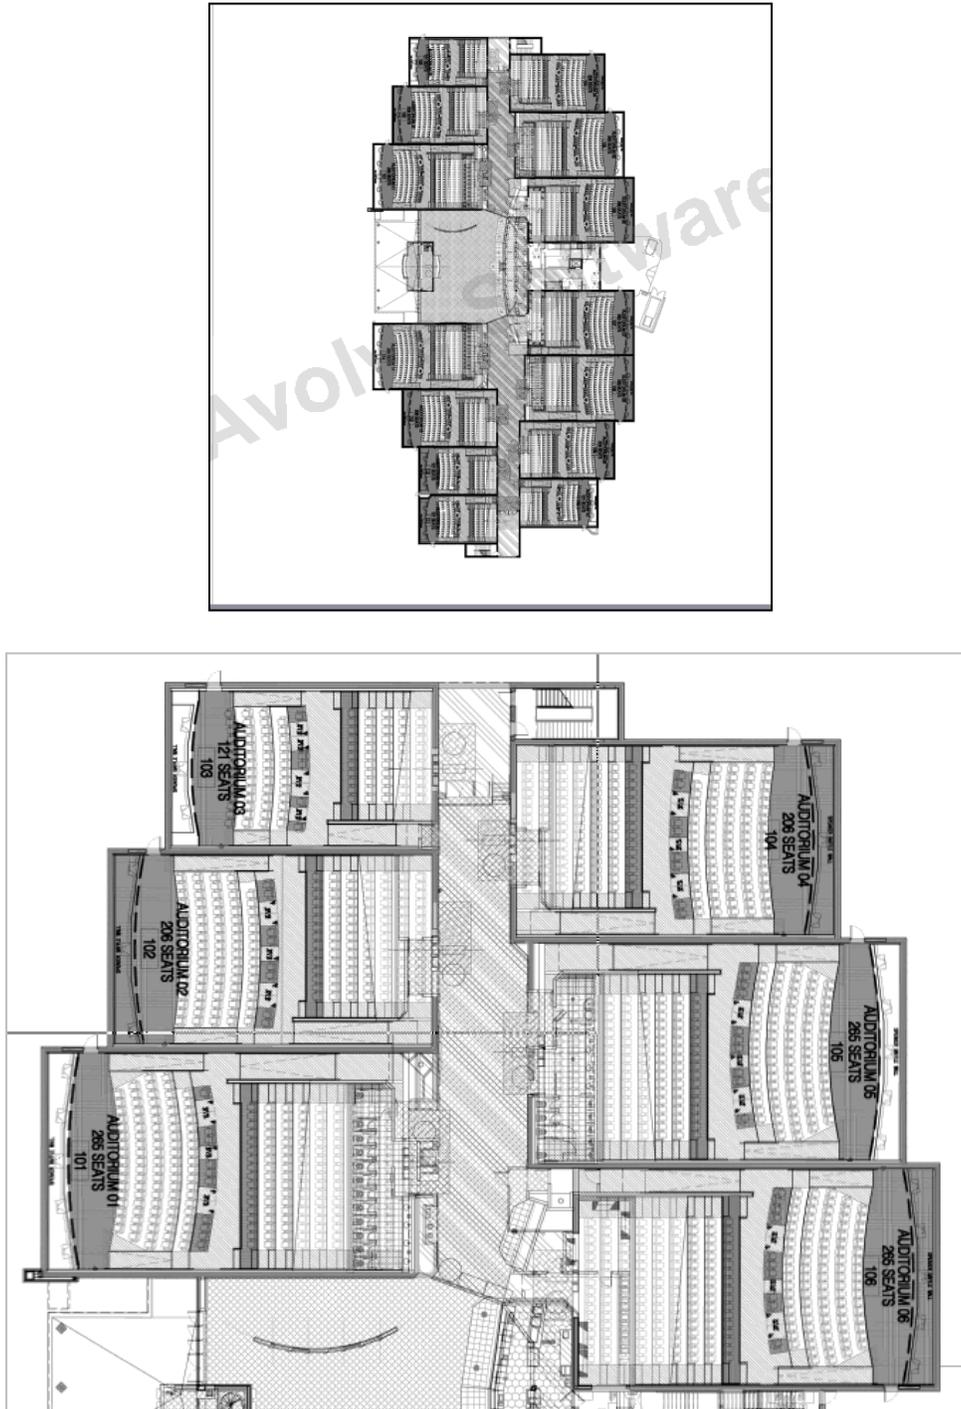

Figure 33.4 Example Result of Set Alignment Points
- If you select any of the compare features from the drop down list (Overlay, for example), the points placed in the first file are pinned to the points placed in the second file. When alignment is active, both documents display at exactly the same scale (see Figure 33.4)